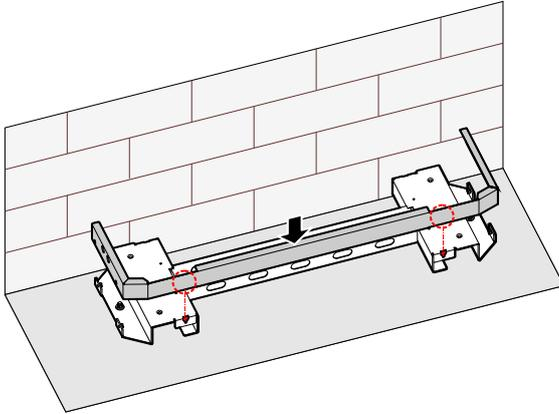
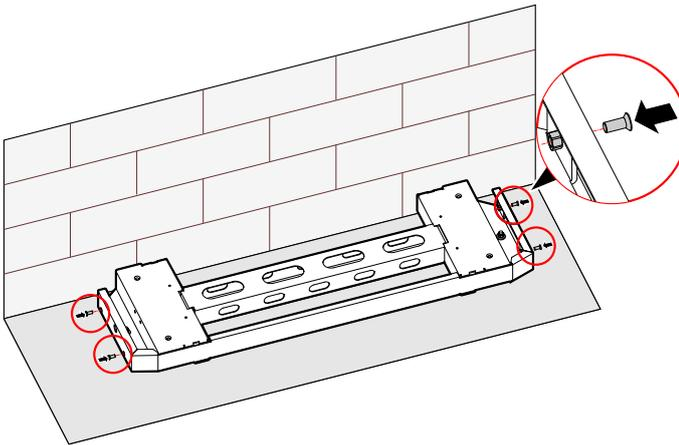

Figure3-10 Install the cover plate
Figure3-11 Fasten the cover plate
5. Lead the cover plate into the base module and fix it with screws, as shown in Figure3-10, Figure3-11.